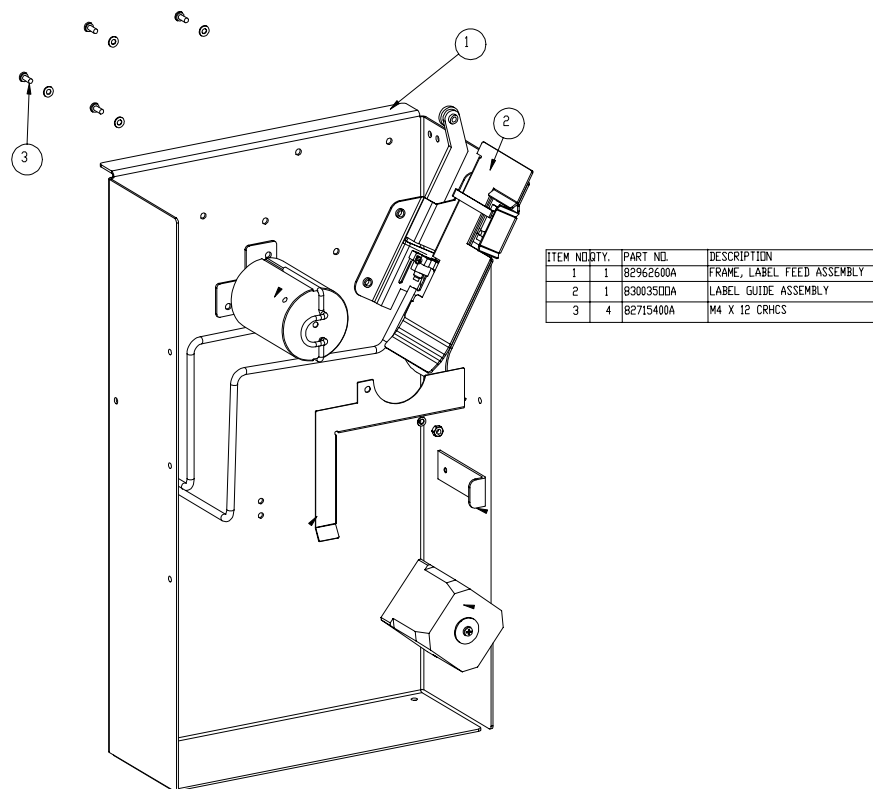

Figure 1
2. Remove the label guide assembly by removing the 4 M4x8 mounting screws in the rear side of the label box. (See figure 1). Support the label guide assembly when removing, as the gap sensor wires will remain connected to the unit.
5. Reinstall the label guide assembly in to the label box. When installed the roller should look as shown in figure 1.